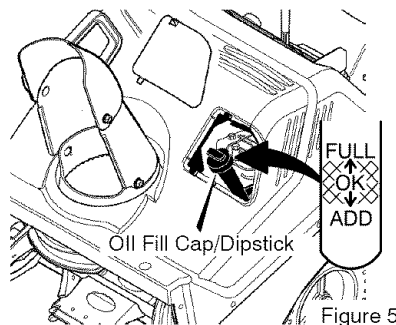

Figure 5
3. Remove the **oil fill cap/dipstick** (Figure 5). Fill to the **FULL** mark on the **oil fill cap/dipstick**. Periodically check the oil level. **DO NOT OVER FILL.**